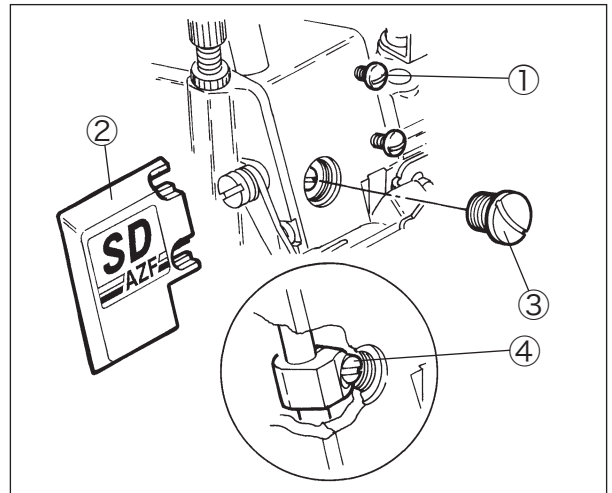

Fig. 6-17
- (1) Loosen the screws ① and remove the logo plate ②. (Fig. 6-17)
- (2) Remove the screw ③.
- (3) Rotate the machine pulley to raise the needle bar at the highest point.
- (4) Loosen the screw ④ and move the needle bar up or down to adjust the height.